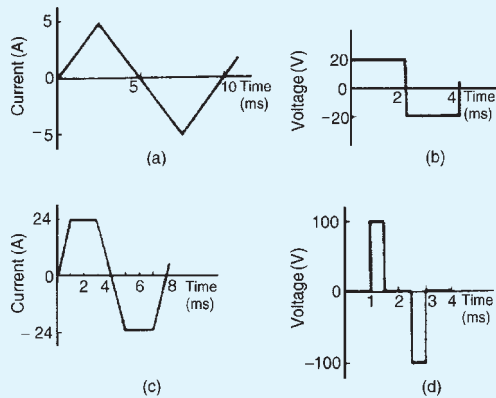

Figure 14.7
- For the waveforms shown in Fig. 14.7 determine for each (i) the frequency (ii) the average value over half a cycle (iii) the r.m.s. value (iv) the form factor (v) the peak factor.